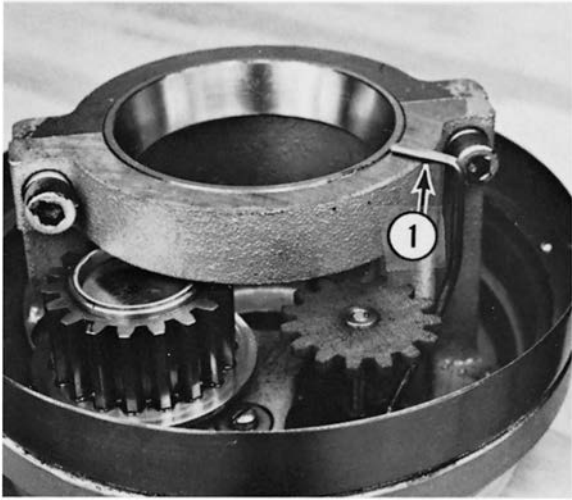

FIG. 10-18
**NOTE:** Position the oil pump outlet as shown in (1, Fig. 10-18).